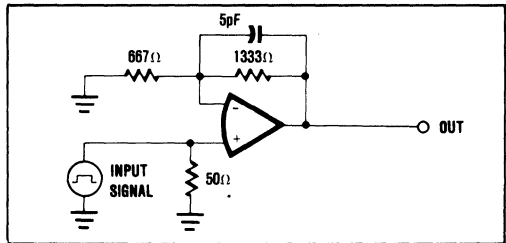

FIGURE 4. Dynamic Response Test Circuit.
2. Closed-Loop Gain = 3. See Figure 4.
The test circuits of Figure 4 is used for measurement of slew rate, settling time, and overshoot. Both rise time and overshoot are measured under small signal conditions ($V_{OUT} = \pm 200\text{mV}$). Slew rate and settling time are measured for a 10V , p-p, square wave.